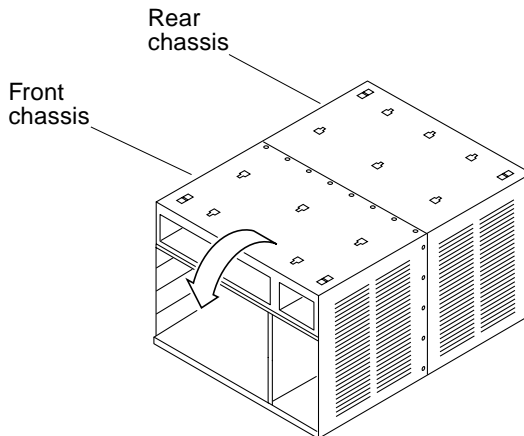

FIGURE 6 Orientation of Empty System Chassis
The system chassis in both the Sun Enterprise 4x00 and 5x00 Systems is in two sections, consisting of a front chassis and a rear chassis. The centerplane is located between the two sections of the chassis and is fastened to the front chassis (FIGURE 6).
2. **Place the empty system chassis front side down (FIGURE 6).**